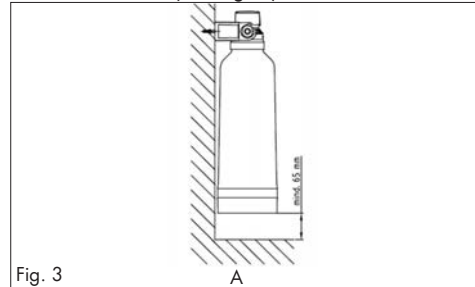

Fig. 3
2. The filter system is to be installed and operated in vertical position (see Fig. 3).